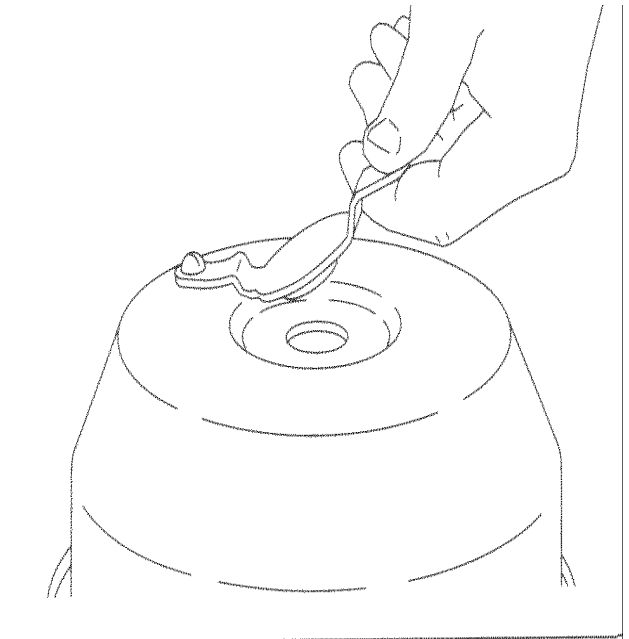

Fig. 2, Remove the Dust Plug
2. Remove the dust plug from the center-hole in the head of the chamber. See Fig. 2.